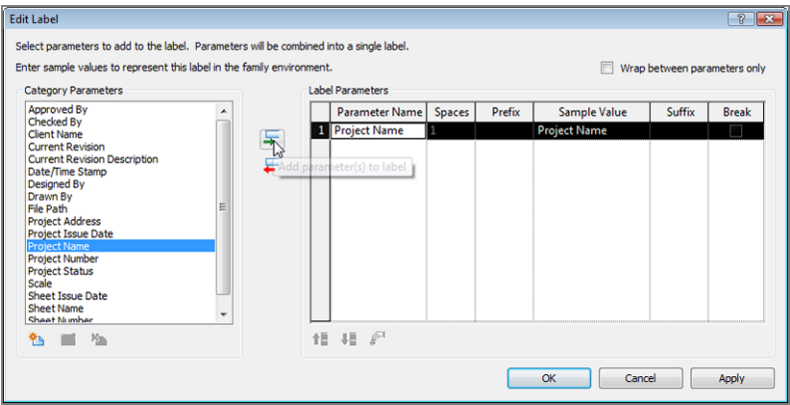

FIGURE 14.26: Adding the project name to the label
- 1. Select Project Name, and click the Add Parameter(s) To Label button, as shown in Figure 14.26.